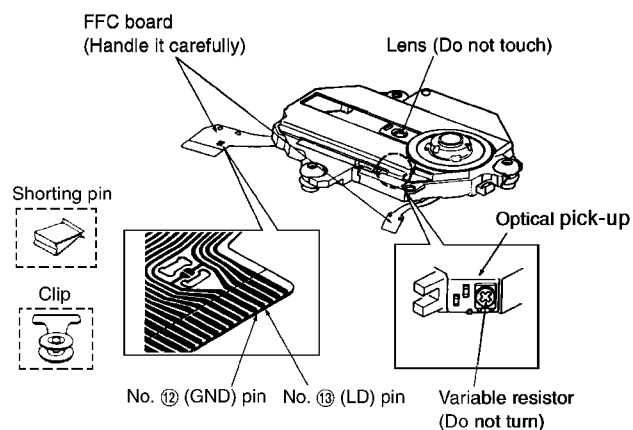

Fig. 4-1.
2. To protect the laser diode against electrostatic breakdown, short the flexible board (FFC board) with a clip or similar object. Refer to Fig. 4-1.
4. Do not turn the variable resistor (laser power adjustment). It has already been adjusted. Refer to Fig. 4-1.